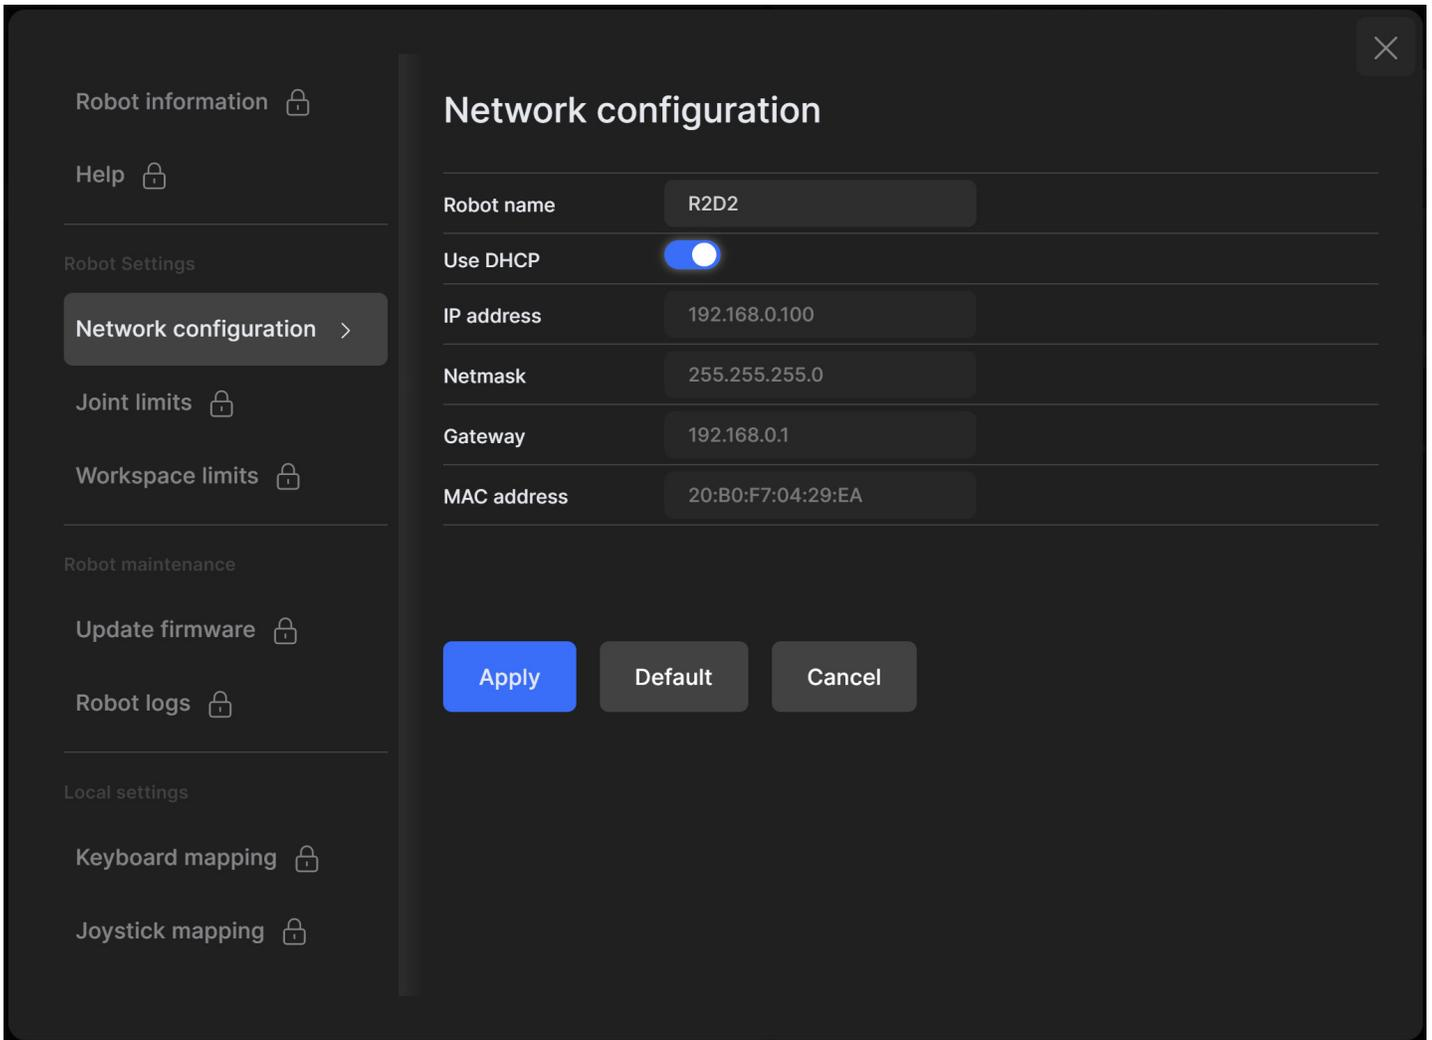

Figure 12: Changing the robot's network configuration
2. Depending on your configuration, activate the toggle DHCP to automatically receive an address from your router or leave untoggled to force a specific IP. You don’t need to reboot the robot; the new configuration will be applied as soon as you click on the Apply button (Figure 12).